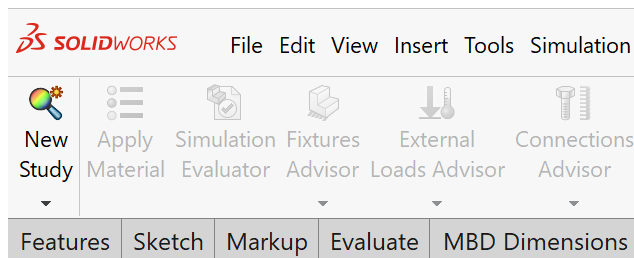

Figure 5: New Study inside Simulation Menu
- A. With the tutorial model downloaded and the correct material applied the next step is to create a new study using SolidWorks Simulation, SW's FEA solver. To get started, click on the simulation tab and search "Simulation" in the "Search Commands" bar. Once the right menu is selected, click on "New Study" to create a new simulation study (Figure 5).